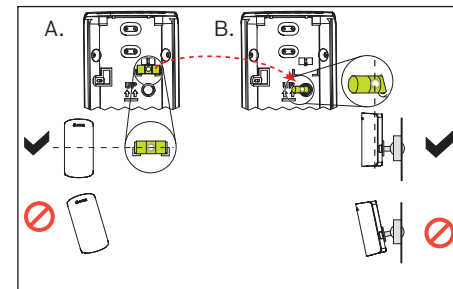

Figure 4.3: Level detector
2. Use the bubble level to ensure the base is level from side to side. Refer to Figure 4.3-A.
3. Remove the bubble level and place it into the bubble level holder to verify vertical alignment. This is applicable for swivel mount brackets only. Refer to Figure 4.3-B.